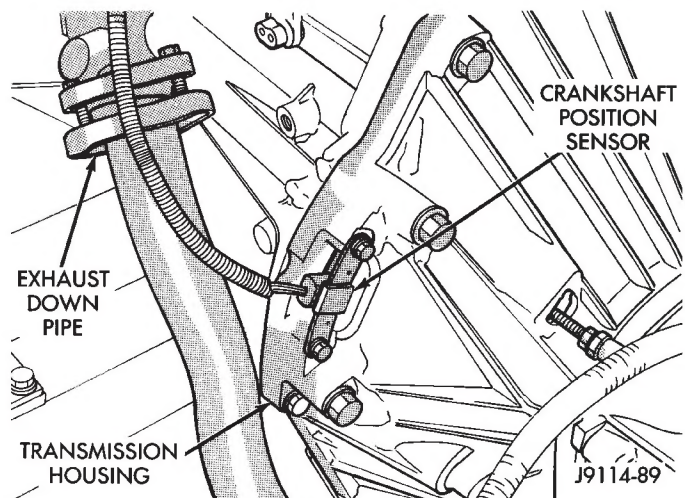

Fig. 8 Crankshaft Position Sensor (2.5L)
(12) Remove crankshaft position position sensor (Figs. 8, 9).